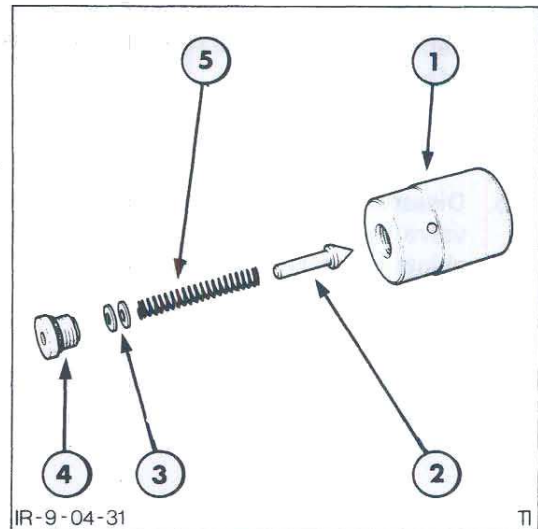

Figure 30
3. Remove the plug from the end of the backpressure valve and withdraw the shims, spring and backpressure pilot valve from the valve body, Figure 30.